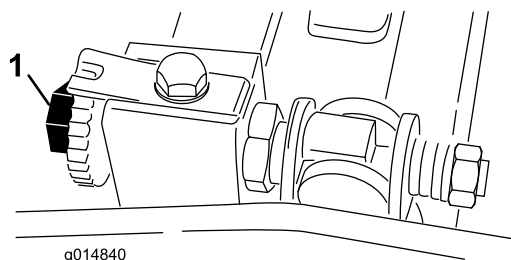

Figure 45
3. Rotate the reel so that a blade crosses the bedknife edge between the first and second bedknife screw heads on the right side of the cutting unit (Figure 45).
6. Turn the right bedbar adjusting screw until you feel light pressure (i.e. drag) on the shim by sliding it side-to-side (Figure 45). Remove the shim.